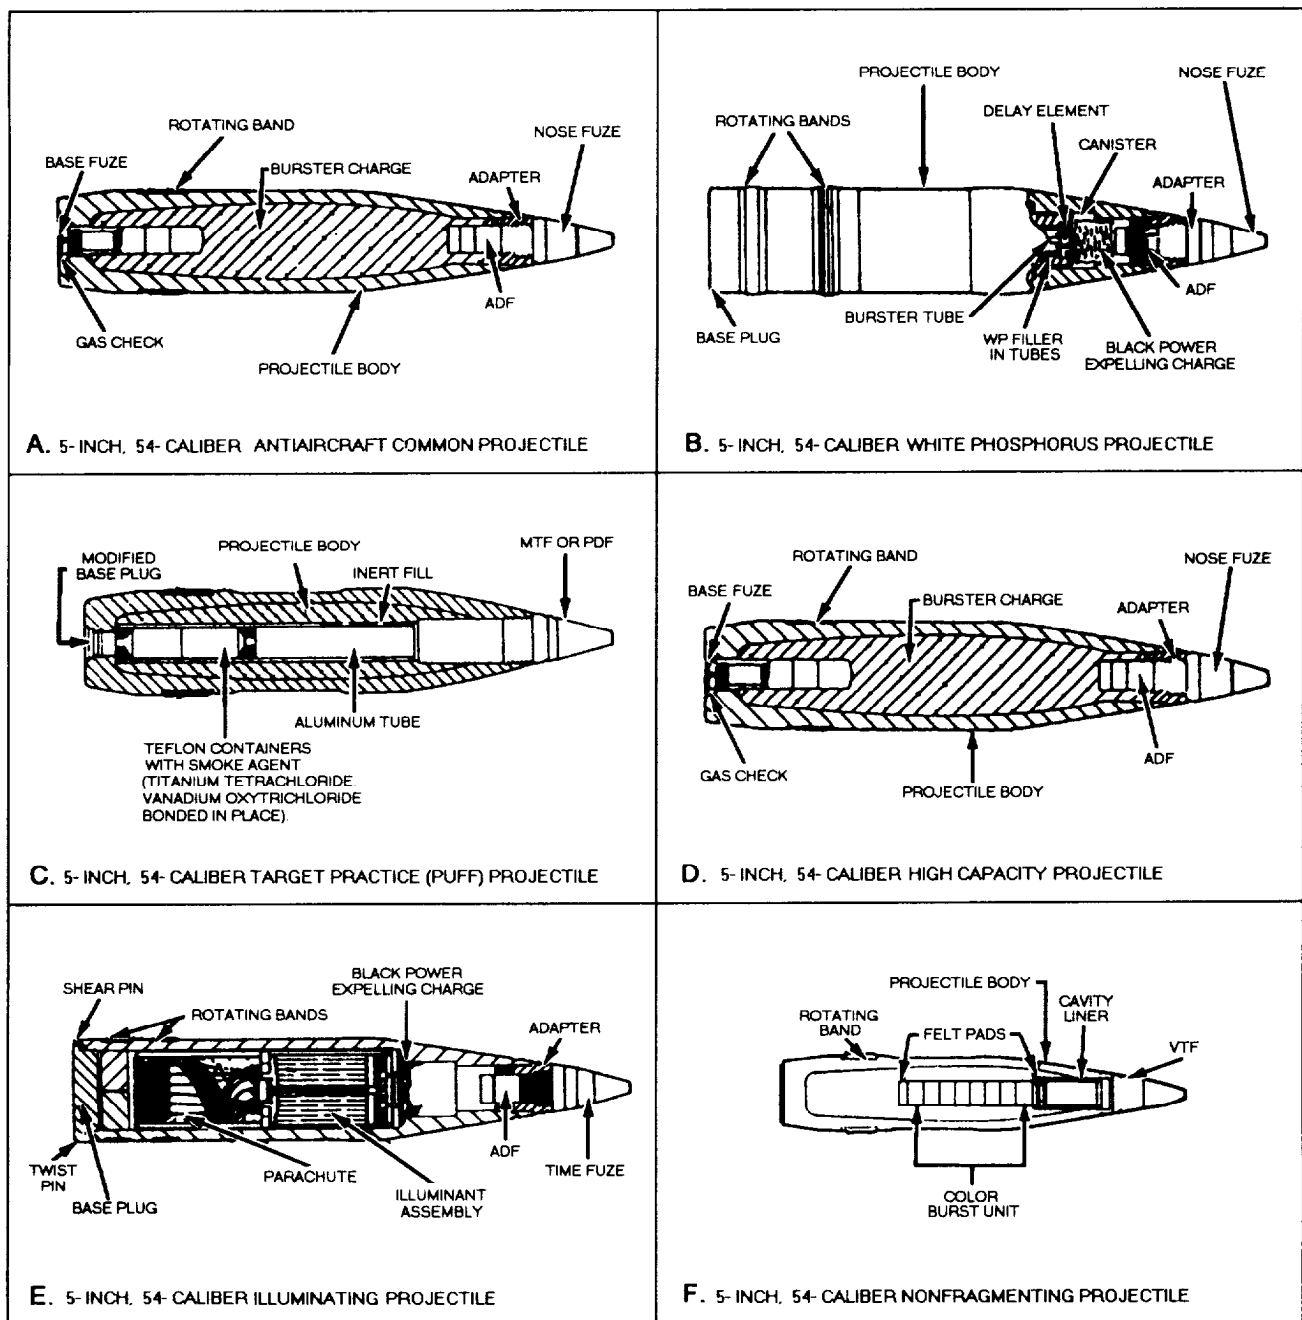

Figure 6-3.—Common projectile types.
Projectiles are also classified by their tactical purpose. The following are descriptions of some of the common projectile types (fig. 6-3).
ANTIAIRCRAFT COMMON (AAC).—Antiaircraft common projectiles are dual-purpose projectiles combining most of the qualities of the AA-type with the strength necessary to penetrate mild-steel plate (fig. 6-3, view A). However, AAC projectiles do not have the penetrating ability of common projectiles. The type of fuzing will depend on the use. Fuze threads are provided in the nose and in the base. AAC projectiles are normally equipped with a mechanical time fuze (MTF) and an auxiliary detonating fuze (ADF). Dual-purpose action is accomplished by a time setting for air burst or by setting MTFs on “safe” or for a time longer than flight-to-target to permit the base detonating fuze (BDF) (delay) to function for penetration. By substituting a point detonating fuze (PDF) for the MTF, you can convert these projectiles to high-capacity for surface burst.
CHEMICAL.—Chemical projectiles may be loaded with a toxic, harassing, or smoke-producing agent. Of the smoke agents, white phosphorous (WP) is the most frequently used. WP projectiles (fig. 6-3, view B) are designed to produce heavy smoke and, secondarily, an incendiary effect. The small WP containers are expelled and then scattered by a delayed action burster charge that is ignited by a black powder expelling charge. Other chemical loads are dispersed in a similar manner.
PUFF.—Puff projectiles (fig. 6-3, view C) are nonexplosive projectiles used as practice (spotting) rounds. They are designed to produce dense smoke clouds approximating those of high-explosive rounds.
Large HC projectiles (fig. 6-3, view D) are provided with an auxiliary booster to supplement the booster charge in the nose of the main charge. With threads in both the nose and base, HC projectiles may receive a variety of fuzes or plugs to accomplish different tactical purposes. An adapter ring (or rings) is provided on the nose end of most HC projectiles to allow installation of point detonating fuses (PDFs) or nose plug and auxiliary detonating fuses (ADFs) with different size threads. An adapter is removed for larger fuzes. HC projectiles are
ILLUMINATING (ILLUM).— Illuminating projectiles (fig. 6-3, view E) are made with thin walls. Each contains a time fuze, an ADF, a small black powder expelling charge behind the ADF, an assembly consisting of a pyrotechnic star or candle with a parachute, and a lightly held base plug. The time fuze serves to ignite the expelling charge. Explosion of the
VARIABLE TIME NONFRAGMENTING (VT-NONFRAG).—VT-NONFRAG projectiles (fig. 6-3, view F) are loaded to avoid rupturing the body and spreading fragments when the fuze functions; however, sometimes the projectile ogive breaks up into low-velocity fragments. They are designed for use in antiaircraft target practice, particularly against expensive drone targets, for observing the results of firing without frequent loss of the drones. These projectiles have fillers of epsom salts or other inert material to give the projectile the desired weight. A color-burst unit, consisting of pellets of black powder and a pyrotechnic mixture, is placed in a cavity drilled in the center of the inert filler. The color burst is ignited through the action of the nose fuze and the black-powder pellets. The color-burst unit may be one of several colors that exits through the fuze cavity and ruptured projectile.